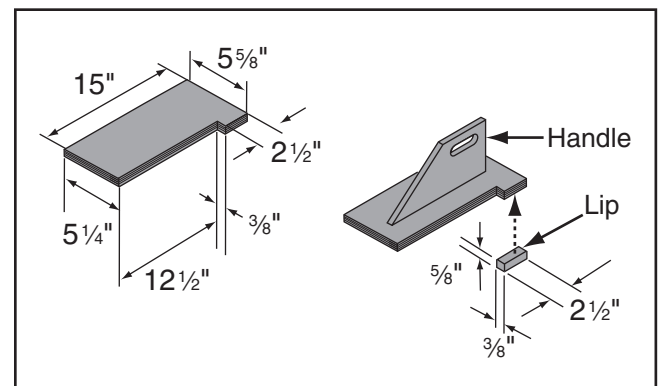

Figure 86. Push block dimensions and construction.
3. Using the $\frac{3}{4}$ " material you used in the previous steps, cut out pieces for the push block per the dimensions shown in **Figure 86**; for the handle, cut a piece 10" long by 5"–9" high and shape it as desired to fit your hand.